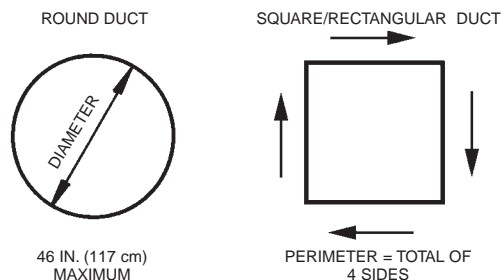

Figure 3-2b.
1. The maximum duct perimeter is 12 ft. (3.7 m). See Figure 3-2b. **Note:** Longest side of a square or rectangular duct cannot exceed 36 in. (91 cm).